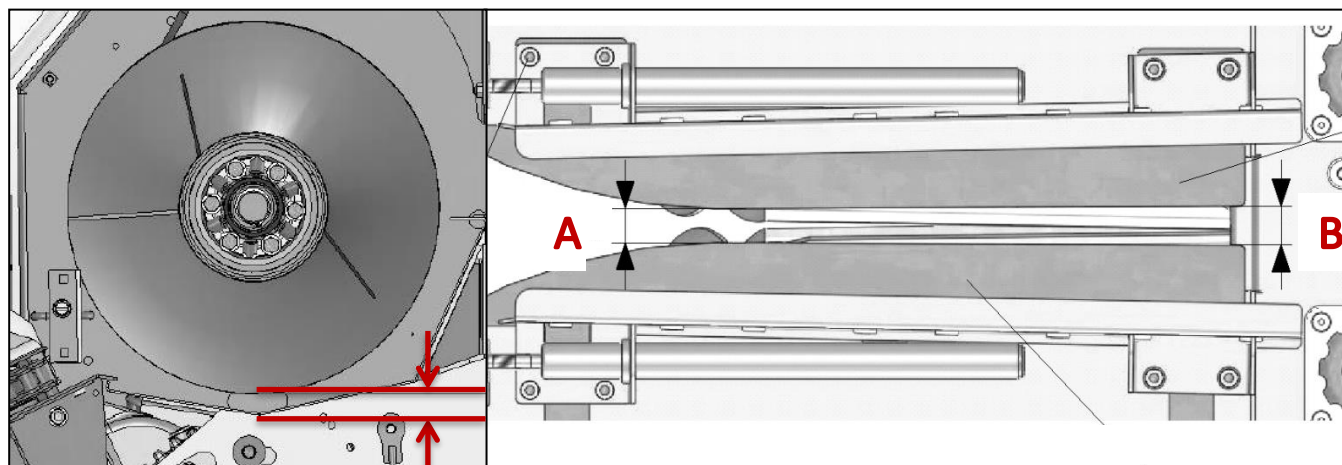

Figure 20: Auger clearance (left) and deck plate clearance (A & B, right).
- 13.7. Check auger clearance is between 1.0” and 1.25” (Figure 20)
- 13.8. Check deck plate clearance with the deck plates set to their minimum gap (Figure 20)